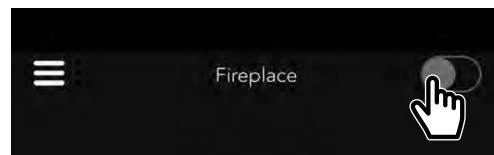

Fig. 16
- Turn off your fireplace by tapping the switch off the top right corner. (Fig. 16)